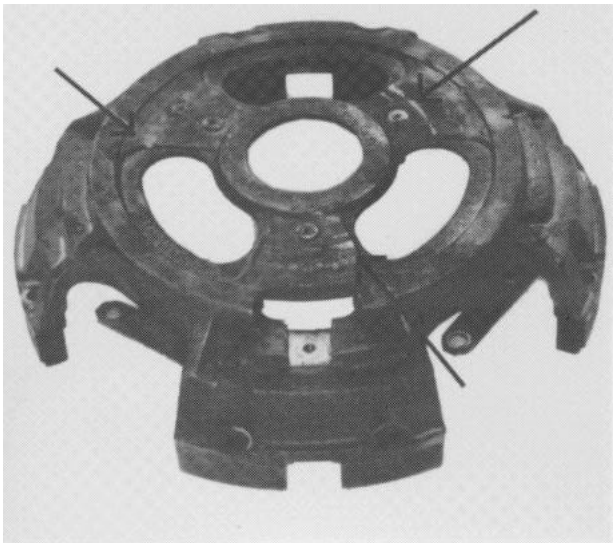

**Figure 21 Broken Synchronizer Pins**
5. Broken synchronizer pins (Figure 21).